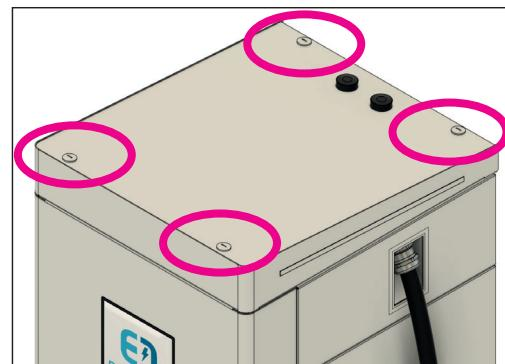

Fig. 14: Screws in head area
- Loosen nut and remove sealing plug including seal; see Fig. 14.